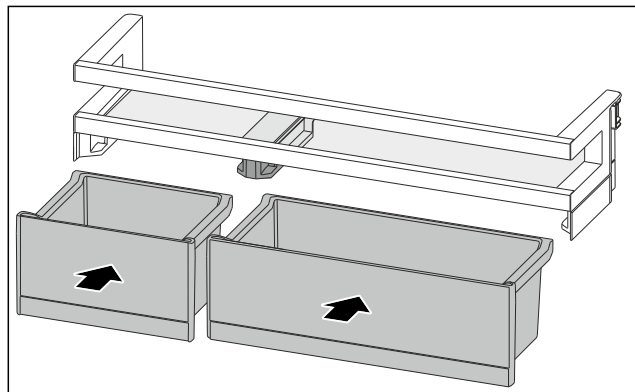

Fig. 86
- ▶ Insert the VarioBoxes in reverse order. (see Fig. 86)